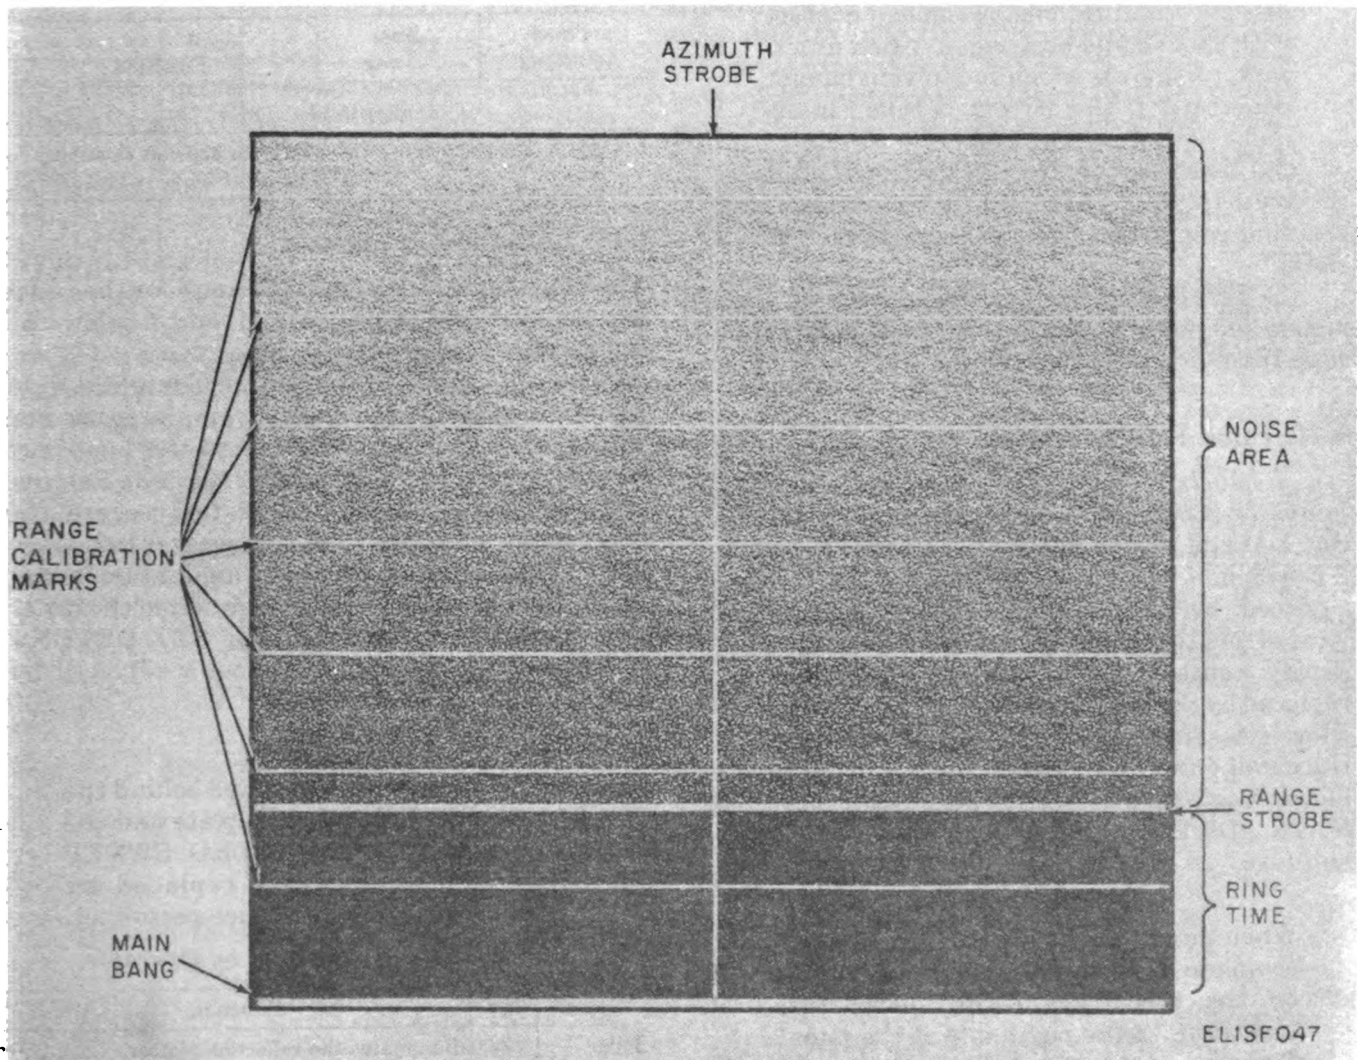

Figure 4-2. B-scope presentation of echo box ringtime.
- (6) Rotate the EXPANDED SWEEP DELAY switch until the intensified band covers the area where the noise begins to build up.
- (7) Carefully retune the echo box for a peak reading on the RELATIVE POWER meter.
- (8) Turn the VIDEO GAIN fully clockwise and adjust the IF GAIN control for maximum ringtime.
- (9) Rotate the computer LOWER BEAM RANGE control until the range strobe coincides with the point where the noise first starts to appear on the crt (fig. 4-2).